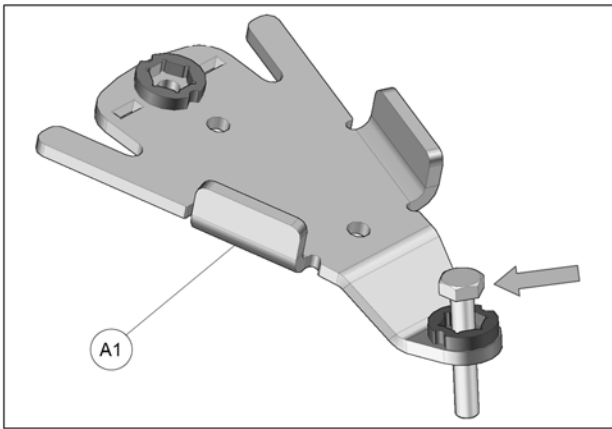

Fig. 15
4. Insert bolt in front anchor bracket (A1) as shown in Fig. 15